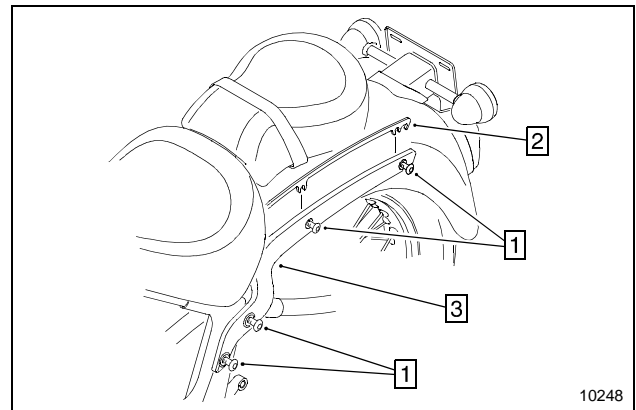

Figure 2
- Loosen, but do not remove, the rear fender mounting screws on each side of the motorcycle (see Figure 2).